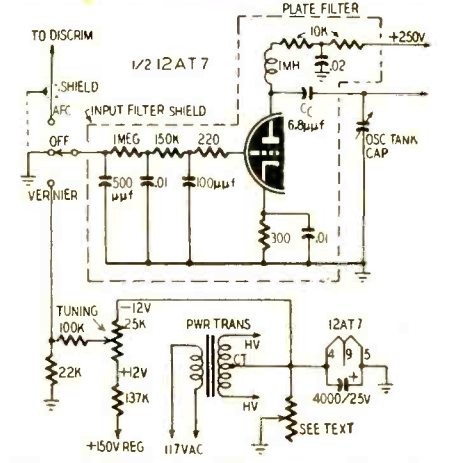

Fig. 4—This is either an a.f.c. circuit or manual-control tuning vernier.
The reactance-tube circuit as finally installed in the receiver is shown in Fig. 4. This is the circuit of Fig. 2-a, with added shielding and plate circuit isolation, plus a switching and manual tuning circuit (lower portion). Appearance of the installation, constructed as a subassembly in a steel chassis 1 x 2 1/2 x 4 inches, is shown in the photo. Extreme rigidity of the mounting of the coupling capacitor, and use of No. 14 bus bar leads (as short as possible) in the high-frequency circuits, made the installation practically immune to vibration.
- Materials for circuit of Fig. 4**
tance of the oscillator shunt trimmer. With the constants shown (Fig. 4), this reduction should be about 4.5 μf . Now the receiver should function exactly as it did before the vernier was installed.
Set the switch at OFF and the tuning potentiometer to dead center. Tune any AM station exactly to resonance, using a v.t.v.m. from the a.v.c. line to ground if no other resonance indicator is convenient. Change switch setting to VERNIER and note results. If the station is still tuned exactly to resonance, the vernier is properly adjusted. If some adjustment of the vernier is found necessary to bring the station to resonance, a slight change in the main vernier dropping resistor (137K, Fig. 4) may be desirable.
In the installation described, the tuning range of the vernier was nearly six times as great as desired, and was reduced by a voltage divider consisting of a 100,000-ohm resistor and a 22,000-ohm resistor, connected from tuning potentiometer arm to ground, with the control voltage tapped off at their junction (Fig. 4).